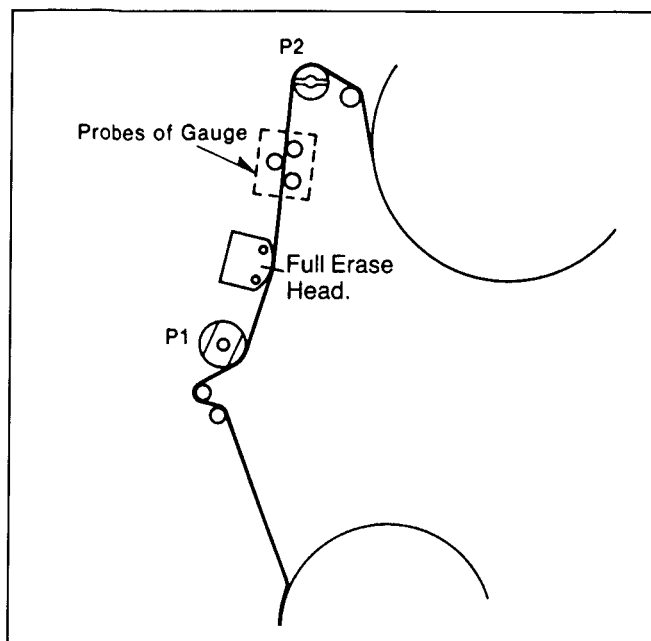

Fig. M2
2. Insert the Back tension Meter into the path of a tape, and measure the back tension to be within specification as shown in Fig.M2